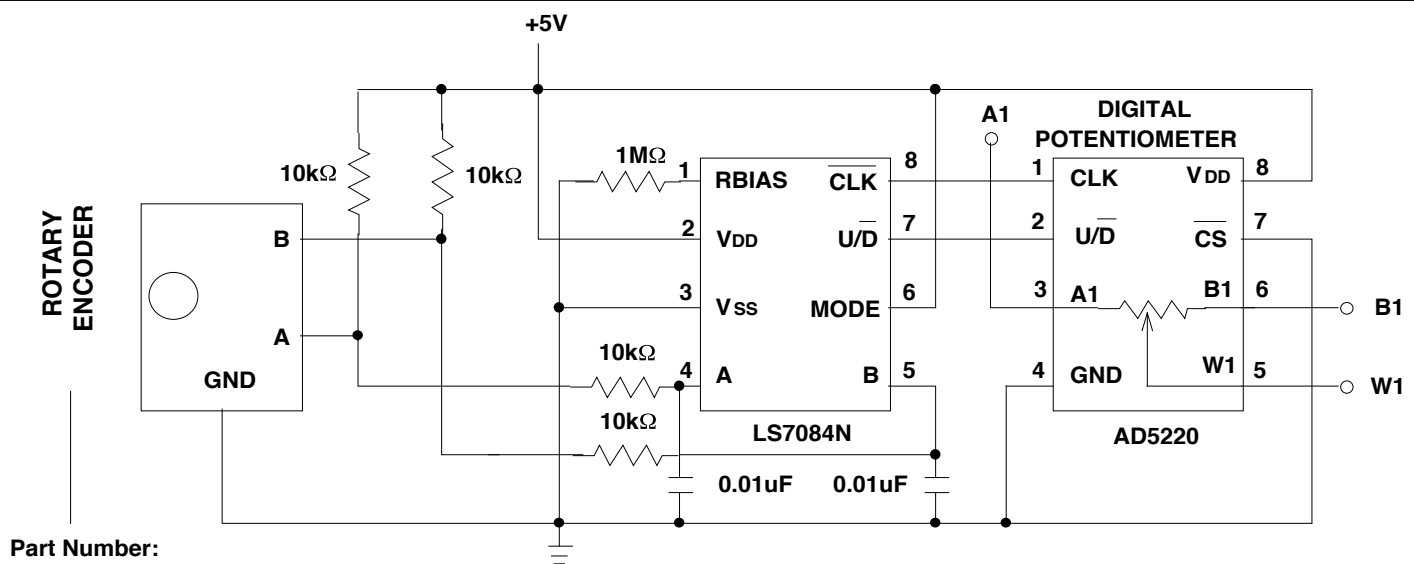

FIGURE 7. Rotary Encoder Control of Digital Potentiometer
- Interface rotary encoders to Digital Potentiometers (See Figure 7)